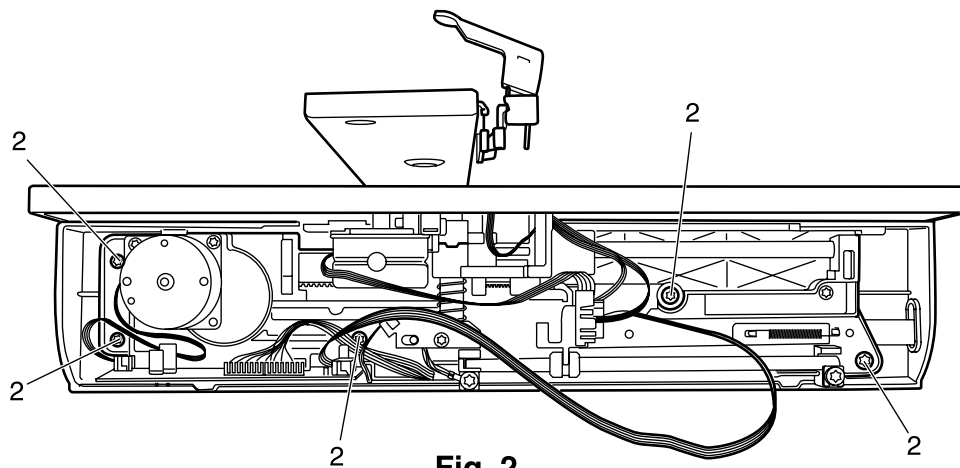

**Fig. 2**
2. Tighten the five Torx screws 2 (Fig. 2).